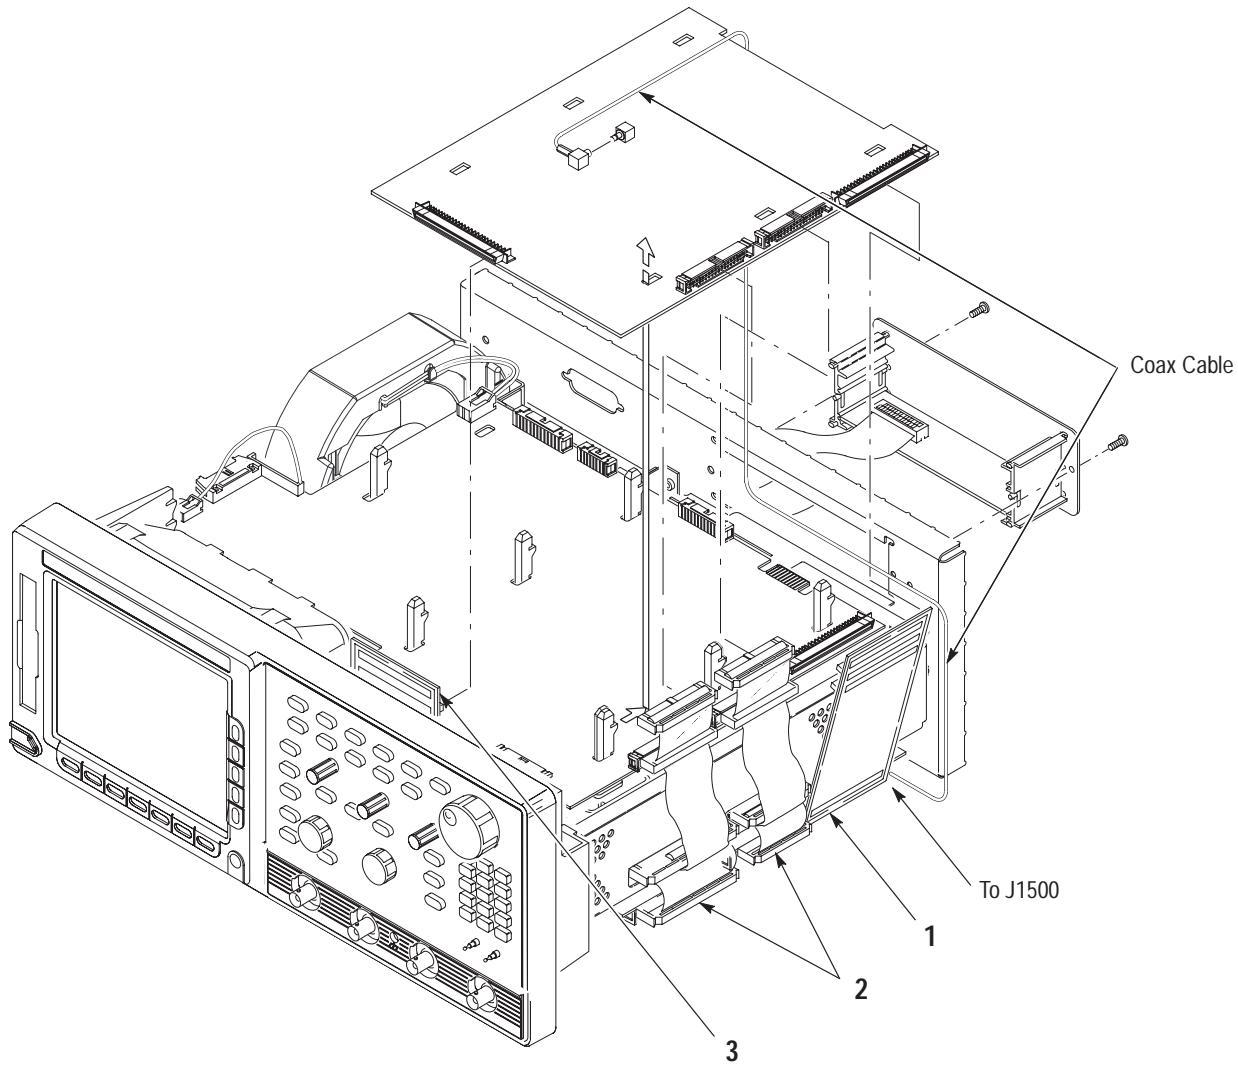

Figure 6–15: Circuit board removal
- a.** Remove (or pull loose) the A27 Connector board (see number 3 on Figure 6–15).
- b.** Slide back and lift up the Video Trigger circuit board (see Figure 6–15).
NOTE. For the TDS 600C, be sure to arrange the coax cable as shown in figures 6–14 and 6–15. Failure to do this may impair performance.
Also, when plugging in the digital bus boards, 1 and 3 in Figure 6–15, make sure that they remain plugged in on both ends.